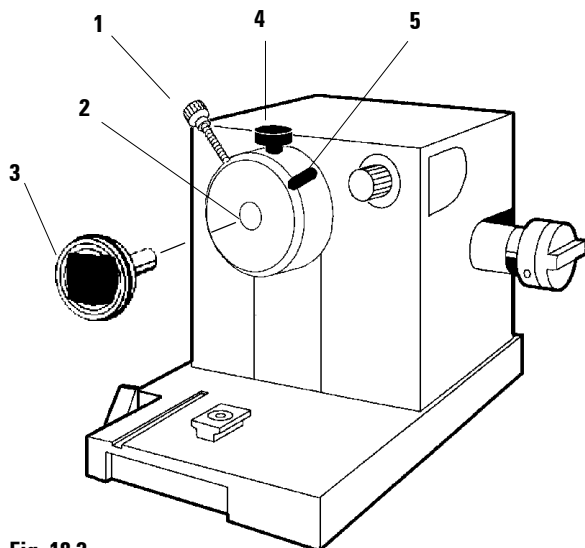

Fig. 18.2
- Once the specimen is frozen, insert the specimen disc in the specimen head (see Fig. 18.2) and start sectioning.